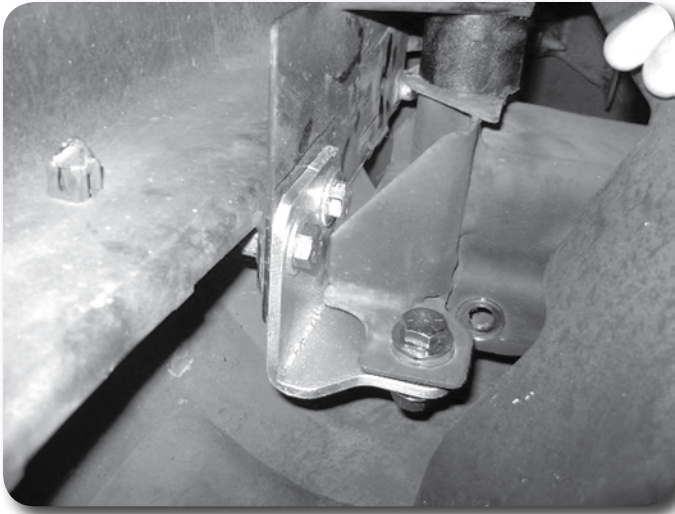

Figure 24B
48. Attach the new lower brackets to the original bumper mounts on the frame with the provided 1/2" x 1-1/4" bolts, nuts and washers. **Figure 24B** Leave hardware loose.